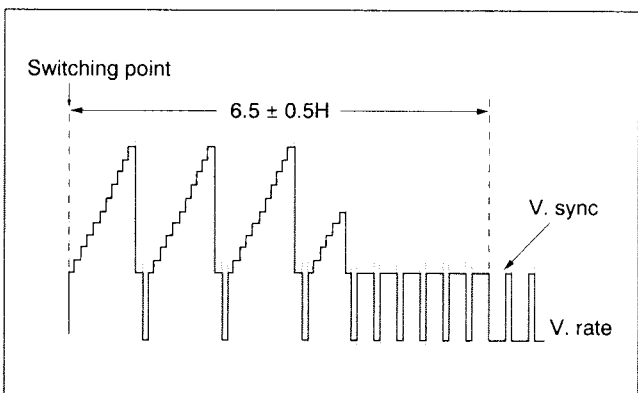

Fig.3-2-2 PB switching point
- (1) Connect an oscilloscope to VIDEO OUT TERMINAL and external trigger from TP111 (negative slope).
- (2) Playback the stairstep signal of the alignment tape.
- (3) Press the "O" button of the presetting unit.
- (4) The adjustment is performed automatically. Once the adjustment is performed, the VCR will go into the STOP mode.
- (5) Playback the alignment tape again, confirm the switching point (See Fig.3-2-2).